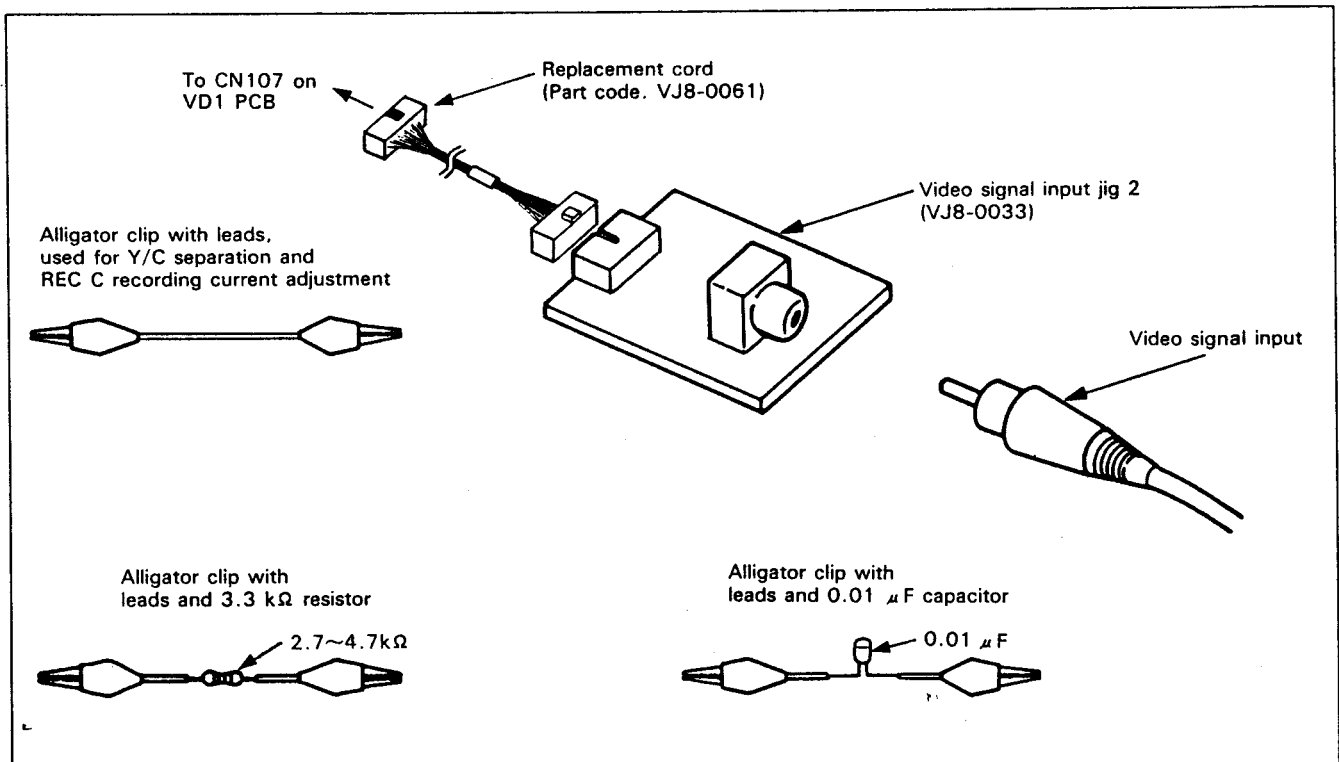

Fig. 3-1a.
8) Jigs as shown in Figs. 3-1a and 3-1b.